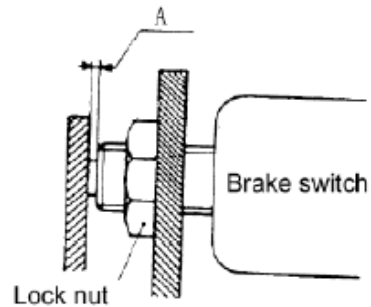

Fig. 2-27
d) Make sure that when you press the brake pedal the brake lamp light at the same time. (See Fig.2-27)